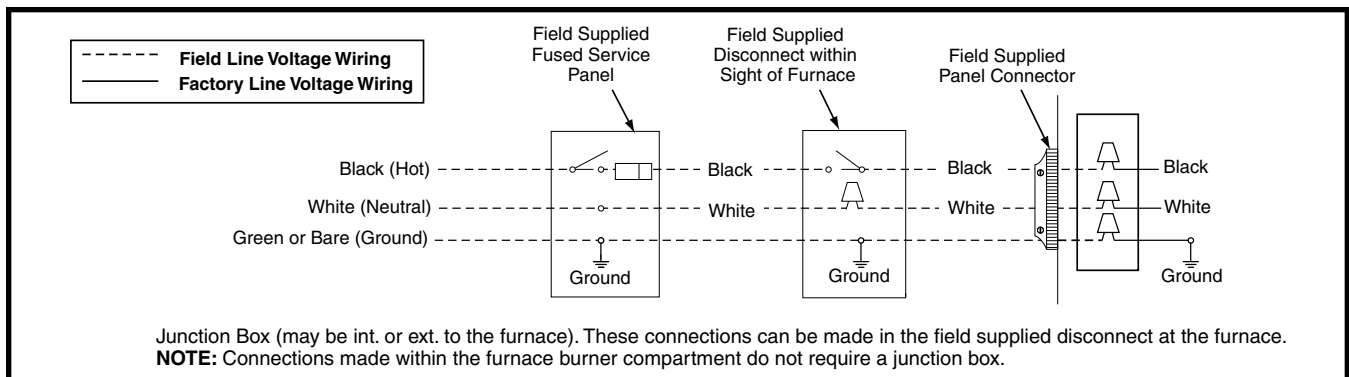
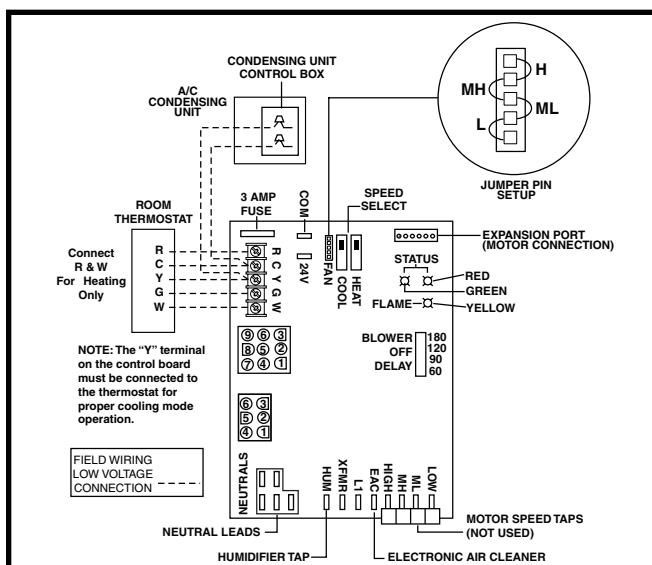

Figure 14. Line Voltage Field Wiring
Figure 15. Low Voltage Field, Four-wire Heating/Cooling Applications
- **An electrical disconnect must be installed readily accessible from and located within sight of the furnace. See Figure 14 or the wiring diagram label inside of the control door. Any other wiring methods must be acceptable to authority having jurisdiction.**
- **Proper line voltage polarity must be maintained in order for the control system to operate correctly. Verify the incoming neutral line is connected to the white wire and the incoming “hot” line is connected to the black wire. The furnace will not operate unless the polarity and ground are properly connected as shown in Figure 14.**
- The thermostat must be installed according to the instructions supplied by the thermostat manufacturer. Low voltage connections (24 VAC) from the thermostat are wired to the terminal strip on the integrated control in the furnace. Figure 15 contains the proper connections for heating only (two-wire) and heating/cooling (four-wire) applications. Recommended minimum wire gauge for thermostat wiring is shown in Table 2, \(page 18\).
- The six pin terminal marked “Expansion Port” (Figure 15) is not used in the single stage furnace as shipped from the factory. It is used for the furnace control board to communicate to a fixed speed or variable speed high efficiency motor that may be optionally installed. Please contact your distributor for the proper upgrade motor kit.
- ✓ Verify the jumper setting (for fan speed) on the control board. See Figure 15, \(page 18\).
The operating sequences for the heating, cooling, and fan modes are described below. Refer to the field and furnace wiring diagrams: Figure 14, \(page 18\), Figure 15, \(page 18\) and Figure 19, \(page 24\) and Figure 20, \(page 25\).
- When the thermostat energizes the **G** terminal for continuous fan (without calling for heat or cooling), the indoor fan is energized on the selected FAN speed. See Figure 15, \(page 18\).